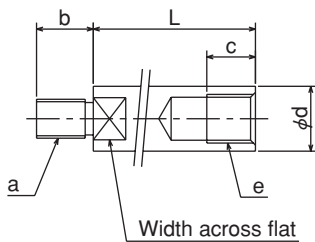

Fig. 14
The dimension L in Fig.14 is determined from the distance A between the cylinder adapter and the back plate.
- Keep the dimension d and the dimension e in Fig. 14 for the draw bar and a material with the tensile strength 380MPa (38kgf/mm²) or more must be used.